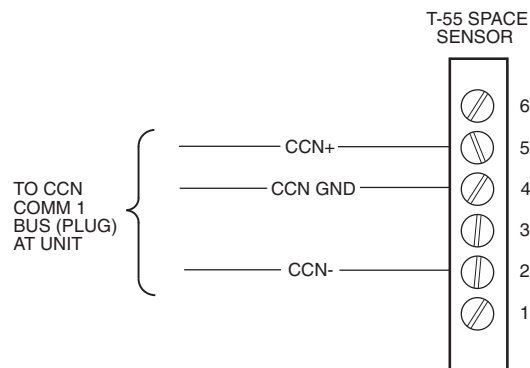

Fig. 25 — CCN Communications Bus Wiring to Optional Space Sensor RJ11 Connector
3. Units on the CCN can be monitored from the space at the sensor through the RJ11 connector, if desired. To wire the RJ11 connector into the CCN (Fig. 25):